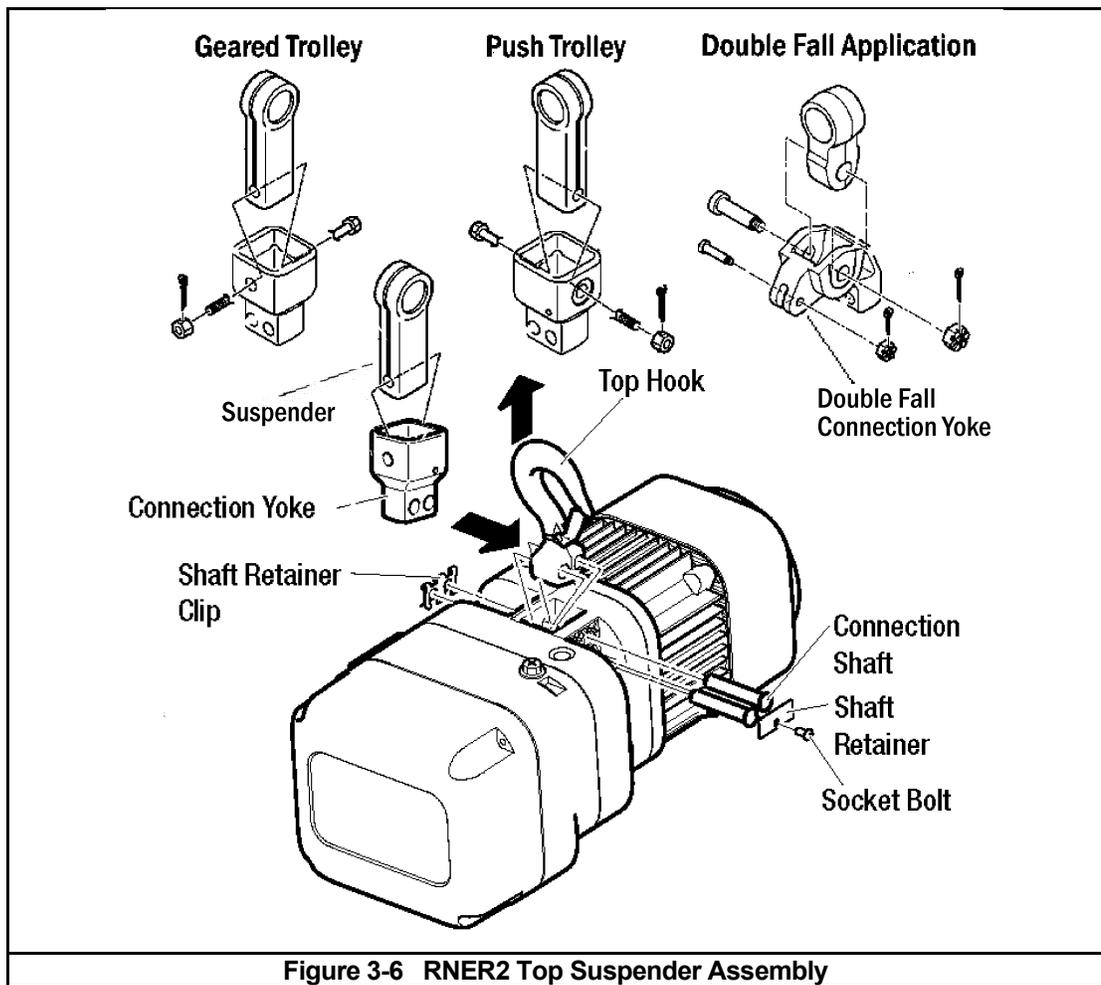

Figure 3-6 RNER2 Top Suspender Assembly
- 1) Refer to **Figure 3-6**.
- 8) Install the appropriate Suspender for the application, securing it to the Connection Yoke with the Yoke Bolt, Slotted Nut, and Split Pin. **Note: (See Figure 3-6) Double Fall applications require a Chain Pin, small Slotted Nut, and small Split Pin, in addition to the Yoke Bolt, Slotted Nut, and Split Pin.**